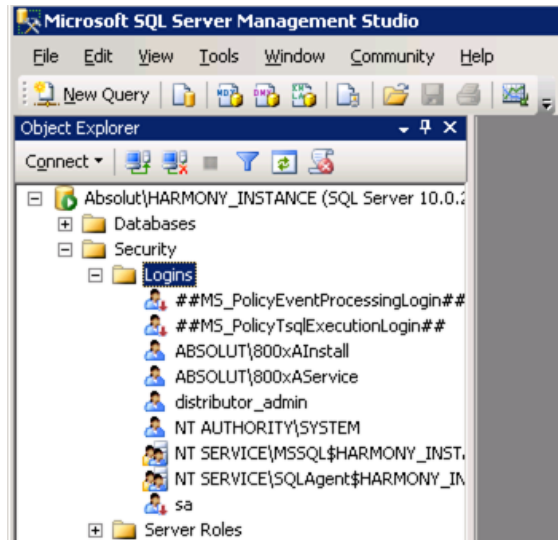

Figure 33. SQL Server Management Suite
3. Expand the listing to the view the following directory (Figure 33):